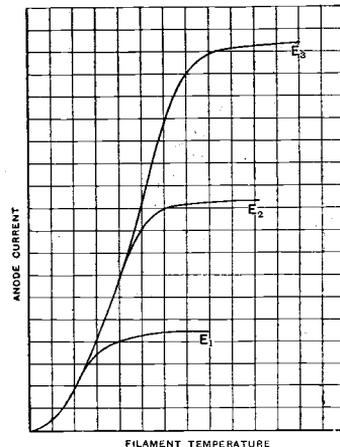

Fig 4.
As the filament temperature is increased, so will also the emission and the number of electrons in the space filament to anode be similarly increased, and the effect of this space charge on the electrons leaving the filament is exactly opposite to that of the anode potential. It would thus be expected that if the filament temperature be sufficiently increased a point would be reached when the two effects, anode potential and space charge, balance each other and no further increase in anode current would result. This is actually the case, and is represented graphically by the curves in Fig. 4. Taking for example the lowest curve in the figure, it will be seen that after a certain point the anode current no longer increases with increased filament current, and that indicated by the horizontal line is called the "temperature saturation current." The reason why the plate current does not go on increasing is because the
anode potential is not sufficiently high to attract all the emitted electrons. If a larger anode current is required, the anode potential must be increased as has been done in the case of the curves  $E_2$  and  $E_3$  (Fig. 4). It is, however, to be noted that the higher the anode voltage the higher must be the filament temperature before saturation sets in. We thus see that for each value of plate voltage there is a corresponding value of filament temperature beyond which there is no increase in anode current.
the brilliancy to a minimum. The filament brilliancy is then gradually increased, a note being taken of the anode current for each setting of filament current. Continue until increase in filament brilliancy ceases to increase the anode current. Two sets of figures will thus be obtained — (1) Filament current, and (2) Corresponding anode current. Plotting on squared paper as before produces a curve similar to the lower one in Fig. 4. The anode
voltage is then increased to, say, 30 volts, and the operation repeated, giving the middle curve in Fig. 4, and so on.